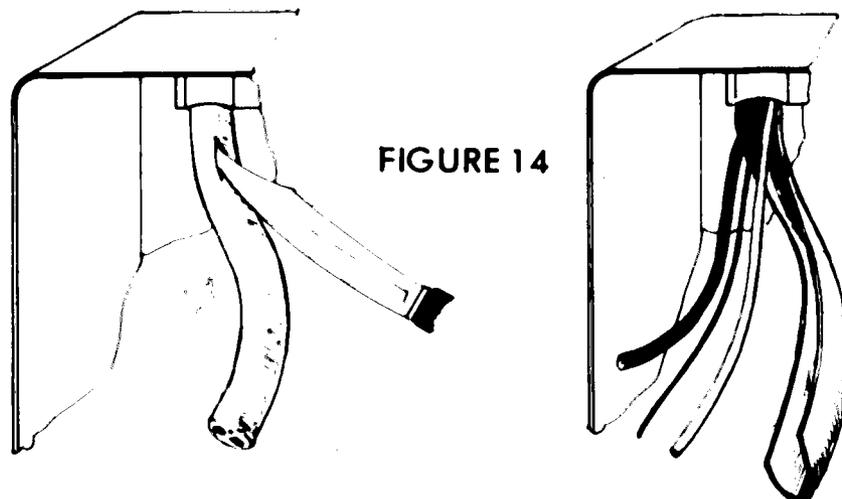

FIGURE 14
- J. Strip cable insulation (Figure 14)